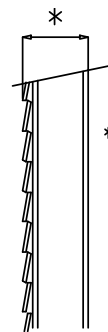
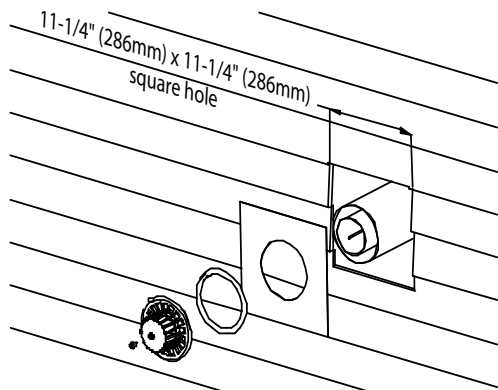

Figure 13
Figure 14
1. Measure thickness of the wall as shown in figure 13.
2. If pipes (B), (C) insulation (i) and the rod (D) are long, trim them according to thickness of the wall, as shown in table 3.
3. The hole at the outside of the wall must be a square of 11-1/4" (286 mm) X 11-1/4" (286 mm) (see figure 14).
5. Wrap the outer pipe with the provided insulation (i) (foil side out) and place the provided strip of tape (H) down the seam to secure it.
6. Slide pipes (B) and (C) through the hole in the wall, and connect them to the appliance flue outlet and air intake, respectively.
7. The outdoor mounting plate (F) and the silicon-rubber ring (G) should be installed between the vent cap and the exterior wall. The plate must be positioned flush to the wall and with its standoffs inserted into the wall and sealed with a non-hardening mastic (silicone caulk). Position the outdoor mounting plate (F) so that the vent-air intake pipe (C) has a slight downward slope to the outside. The downward slope is necessary to prevent the entry of rainwater.
9. Place cap and screw nut (E), until cap leans against the plate (see figures 14 and 15).